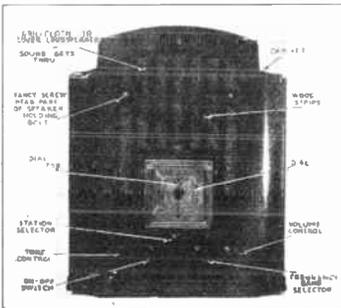

Fig. 1. The front is quite familiar to you
Let's now take as our example a midget model receiver as shown in Fig. 1.
**Taking Out the Chassis.** Study Figs. 1 and 2 carefully. It is evident that the chassis was slipped into the cabinet from the open back: bolted or screwed to the bottom of the cabinet. It is also evident that after you free the chassis, the knobs on the front would prevent the chassis from sliding out.